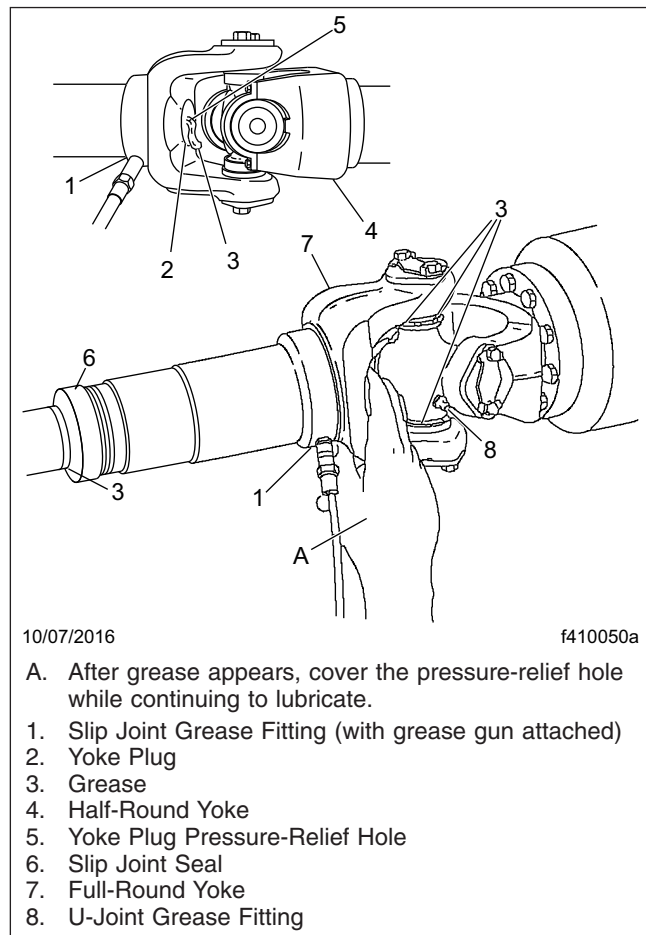

Fig. 6, Slip Joint and U-Joint Lubrication
9. For driveshafts with slip joints, check to be sure the yoke plug is not loose or missing; see **Fig. 6**, item 2. Repair or replace the yoke plug as needed. If the yoke plug is missing, the splined shaft may be hitting the plug and knocking it out; contact your Regional Service Office for assistance in determining the correct driveshaft length.
2. Wipe all old grease and dirt from each U-joint grease fitting; see **Fig. 6**, item 8.
1. If equipped with a grease fitting, wipe all old grease and dirt from the slip joint grease fitting; see Fig. 6, item 1.
2. Use a hand-type grease gun or a high-pressure gun with a low-pressure adapter, to lubricate the slip joint. Add multipurpose chassis grease (lithium 12-hydroxy stearate, NLGI Grade 2, with EP additives) until it appears at the pressure-relief hole in the yoke plug. Then cover the relief hole with your finger, while continuing to apply gun pressure until new grease appears at the slip joint seal; see Fig. 6. This ensures complete lubrication of the splines.